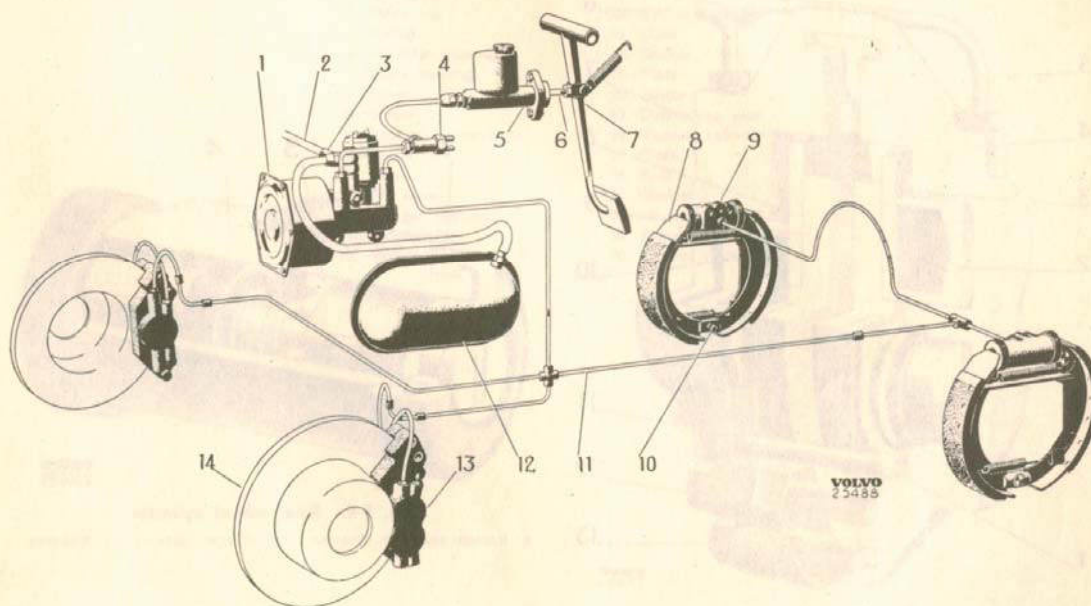

Fig. 7-1. Footbrake system
The design of the footbrake is shown in Figs. 7-1—7-5. The front wheel brake units are of the disk brake type. The disks (14, Fig. 7-1) are of steel and are attached to the hubs with which they rotate. A retainer (13) is fitted at each steering knuckle for the wheel unit cylinders and brake blocks, known as calipers. In addition, protective covers for the brake disks are also fitted on the steering knuckles. The brake blocks
The rear wheel brakes are of the drum type. The upper end of the brake shoes rests against a double-acting wheel unit cylinder (9, Fig. 7-1) and the lower end against an adjusting device (10).
When the brake pedal (7, Fig. 7-1) is depressed this influences the plunger in the master cylinder (5) by means of a thrust rod (6). The hydraulic pressure in the master cylinder then rises and is transmitted through the brake fluid to the servo-brake cylinder